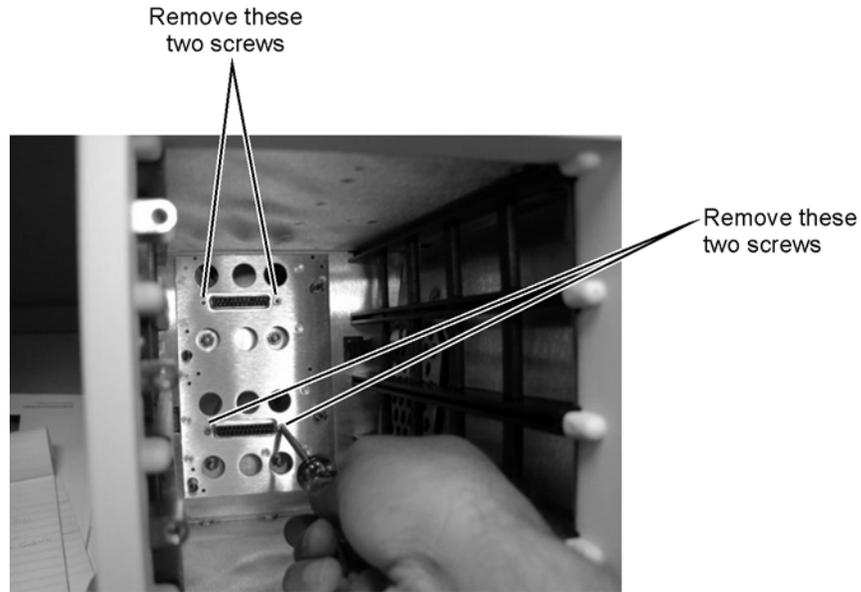

Figure 7-57. Removing Screws from Connectors in Module Drawer
- 4 Use a T-10 TORX driver to remove four screws from the connectors in the module drawer as shown in Figure 7-57.